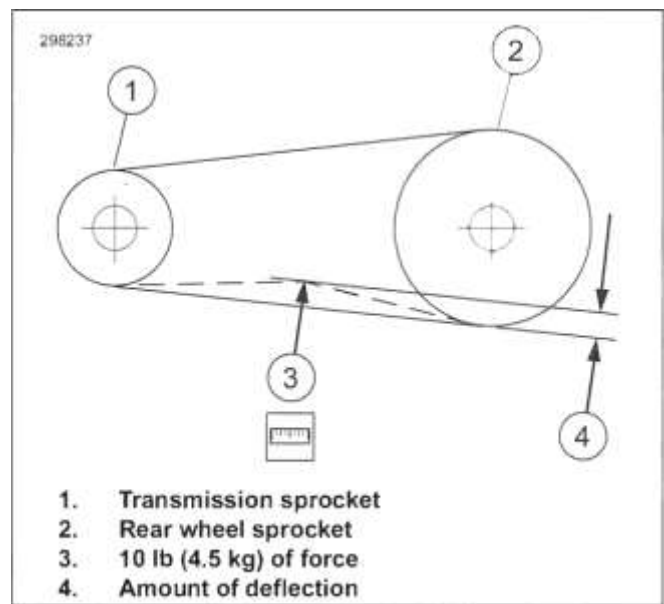

Figure 2-36. Checking Belt Deflection
- b. **All other models:** See Figure 2-36. Measure amount of deflection (4) while holding gauge steady.